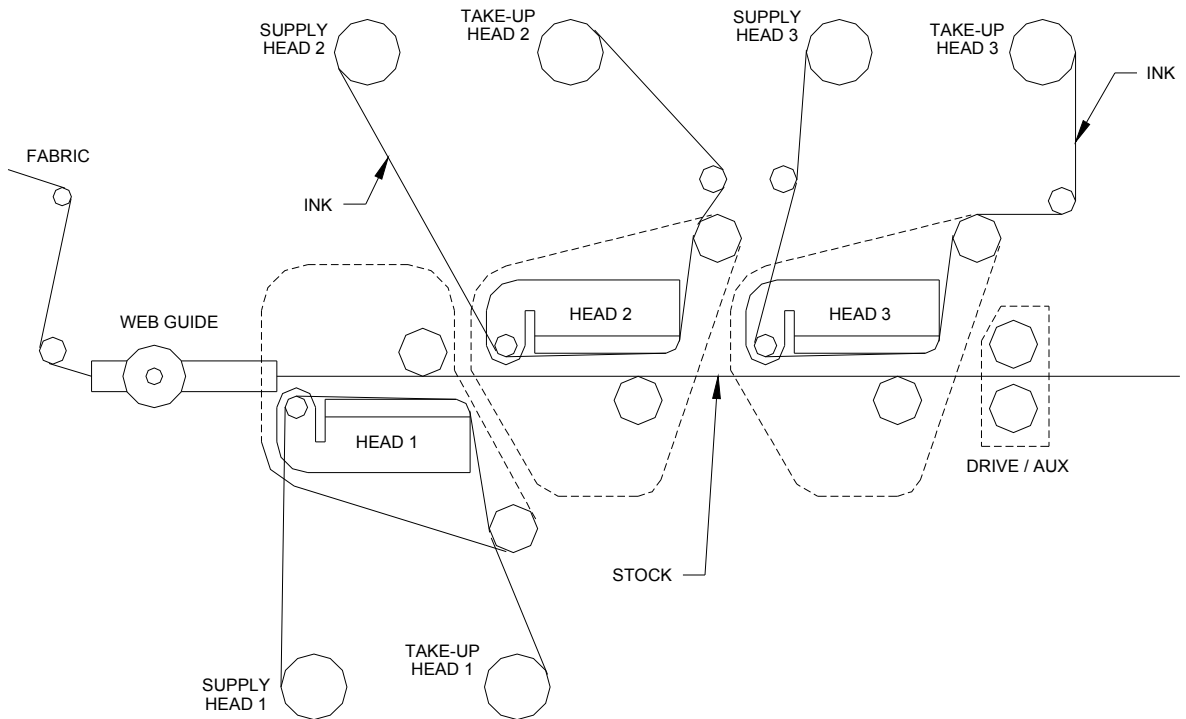

Figure 6
- 1) Unwrap the ink ribbon and put it on the ink-ribbon supply arbor for the print station to be loaded (*Figure 6*) by pressing it on to the arbor when the three slots are lined up.
- 2) Make sure the ink ribbon comes off the roll in the direction shown and is threaded as illustrated (*Figure 6*).